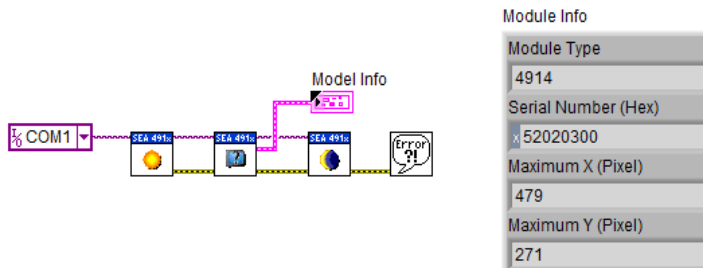

Fig. 3: Quick Start – Simple Application
12. Pass an appropriate VISA Resource to the *VISA Session In* input of the *Open Connection VI* and connect the *VISA Session* and *error* throughout all subsequent VI finishing with the *Close Connection VI*. The final code should look similar to the block diagram shown in Fig. 3.
13. Save the created RT VI and run it. The indicator *Module Info* should return some values upon successful execution, refer to Fig. 3. Please note that the *Serial Number (Hex)* is unique for each module, whereas the other value should be equal to the values shown in Fig. 3.